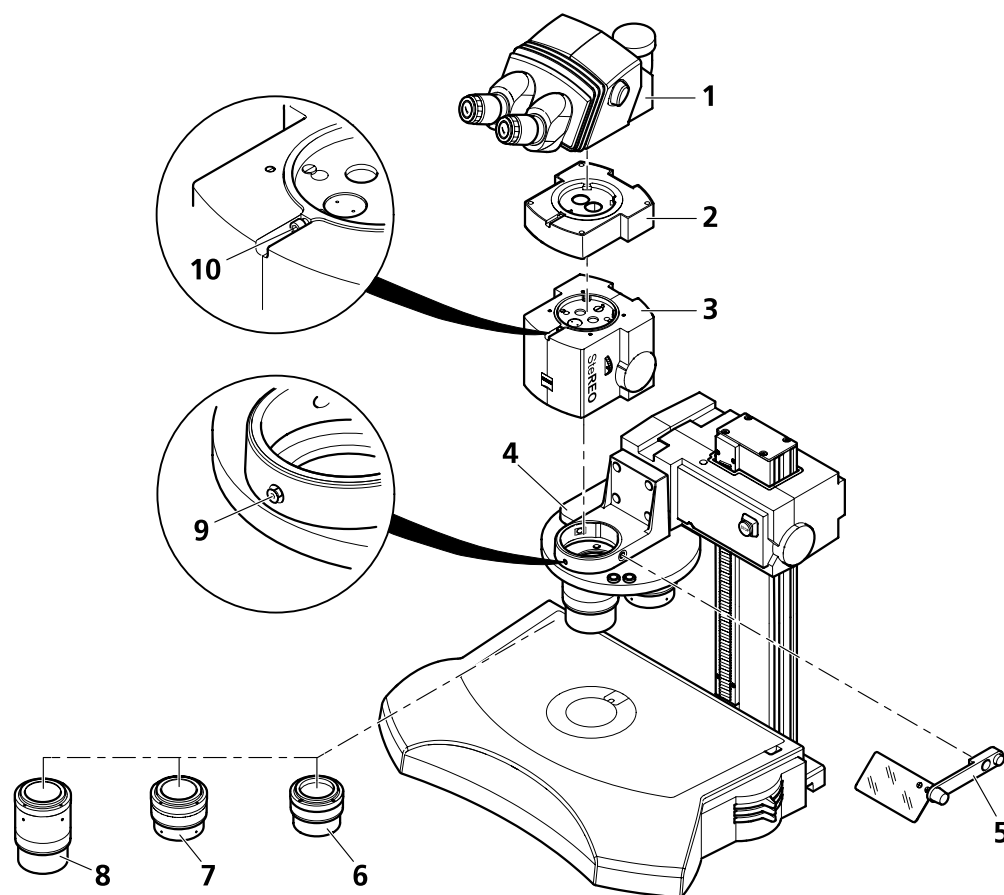

Fig. 16 Installing the microscope
- Verify that the grub screw (SW 3) on the carrier or objective nosepiece (Fig. 16/9) does not project into the opening of the holder. Turn it counterclockwise by a few turns, if necessary, using the ball-headed screwdriver (but do not fully unscrew it!).
- Put the microscope body (Fig. 16/3) into the mount (\varnothing 76 mm) of the carrier or objective nosepiece (Fig. 16/4) and align it.
- Fasten the grub screw (Fig. 16/9) on the carrier or objective nosepiece hand-tight.
Order of installation: At first, install the shortest objective (Fig. 16/6), then the medium one (Fig. 16/7) and finally the longest one (Fig. 16/8). To remove the objectives, proceed reversely.
- Take up the objective (Fig. 16/6) with both hands and screw it counterclockwise into the microscope body or objective nosepiece (upside down right-hand thread).
- Insert binocular tube (Fig. 16/1) in dovetail mount and clamp it by screwing down the Allen screw (Fig. 16/5) hand-tight using the ball-headed screwdriver.
-  You can use up to two 40 mm high intermediate tubes (Fig. 16/2) to increase the viewing height by a maximum of 80 mm. Clamp them in the same way as the binocular tube.
-  To avoid being dazzled in transmitted light, fix the dazzle protector (Fig. 16/5) to the carrier or the objective nosepiece (Fig. 16/4) and swing it in.